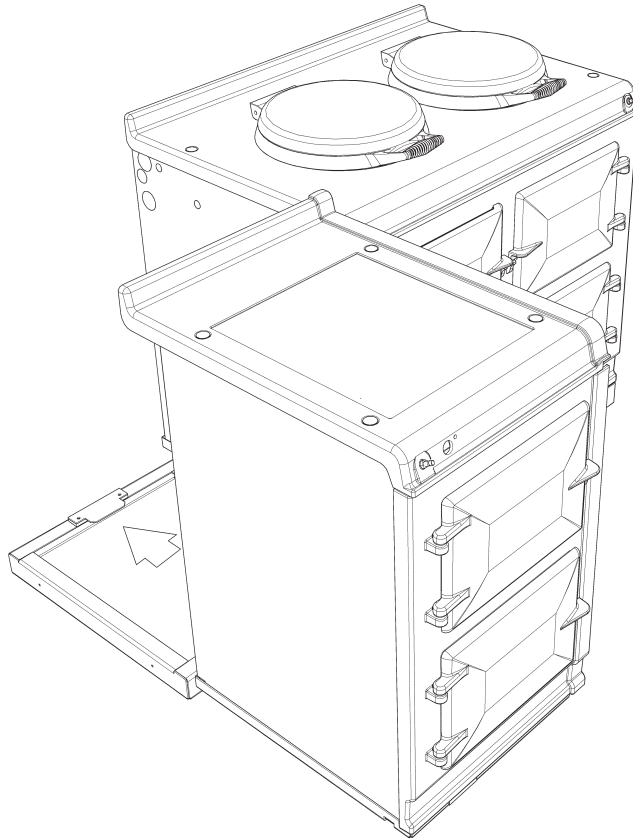

Fig. 15
6. Slide hotcupboard onto plinth until rear tongue bracket engages fully into rear of base slot, (See Fig. 15). Ensure the appliance is aligned squarely with the plinth then proceed to engage the front tongue bracket into the slot on the underside of the base plate. Once satisfied that the front tongue bracket is engaged fully lock it into place by tightening the two M6 screws fully. Ensure that the electrical cable does not come into contact with oven vent pipe from the AGA DC3.